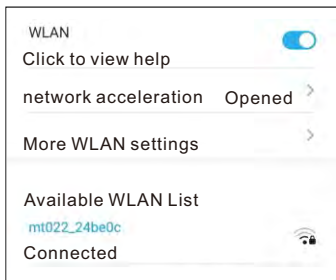

Figure1
- 1.When the Android phone prompts that the WLAN network is unavailable, do you want to switch to the network? Select Cancel. Location permissions should be turned on.As shown in Figure 1.